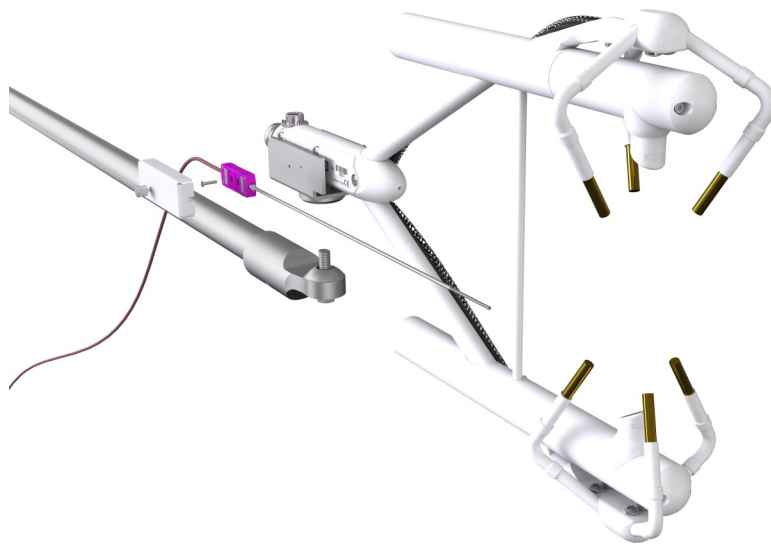
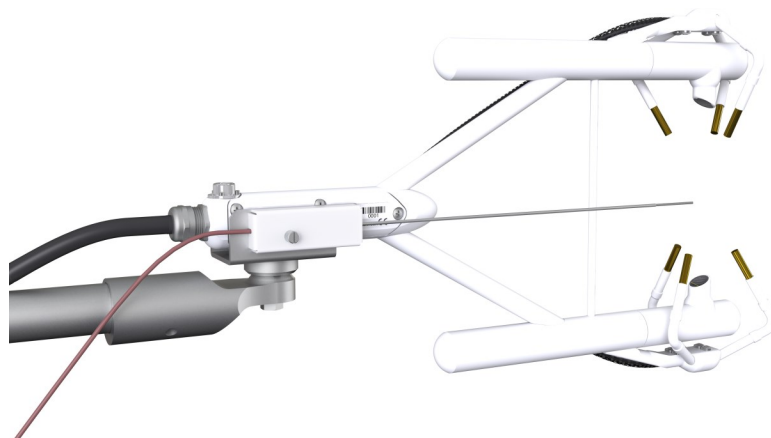

FIGURE 6-8. Fine-wire thermocouple positioning onto the IRGASON
FIGURE 6-9. Fine-wire thermocouple installed onto the IRGASON
4. Attach the white thermocouple cover to the IRGASON sensor head mounting kit for FWTC using the thumb screw so that both the fine-wire thermocouple and FWC-L connectors are covered. (See FIGURE 6-8 (p. 21) for positioning and FIGURE 6-9 (p. 21) to view the fine-wire thermocouple fully installed.)